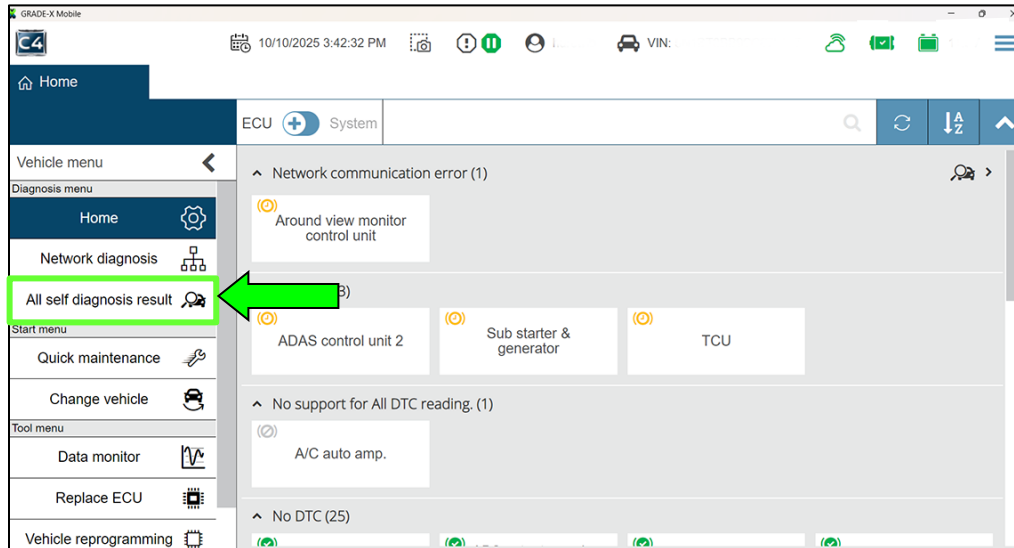

Figure 17
21. Select **All self diagnosis result** and confirm if any DTCs are present (Figure 17).